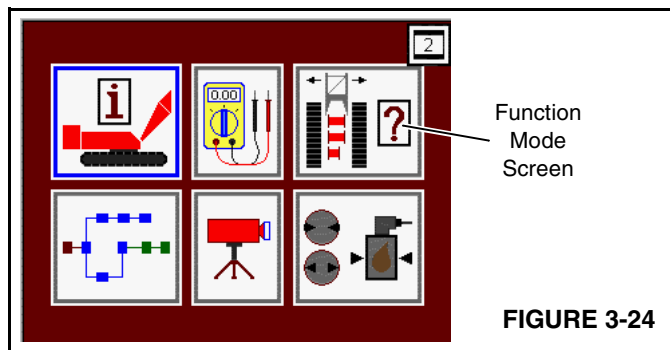

FIGURE 3-24
1. Enter the function mode screen in the main display (Figure 3-24).